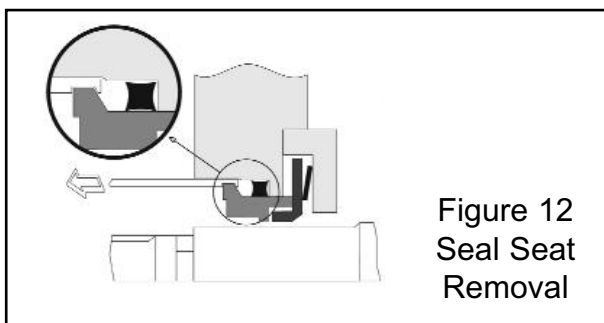

Figure 12
a) Carefully remove the static seal seats (80) from their bores in the rotor case (51), by inserting the special seal removal tool (182) carefully between the outside diameter of each seal seat and the bore in the rotor case. Push back the joint ring with the end of the tool and rotate the tool by 90 degrees, until the hooked end locks in position behind the seal seat. Working the tool gently around the circumference of the seal, carefully pull the seal face out. (See figure 12) Take great care not to scratch or damage the smooth face of the seal. Keep each seal with its respective shaft to ensure correct mating of the seal faces on re-assembly.
b) The joint ring (83) may come out with the seal face. If not, then remove it from the rotorcase bore and keep it together with the seal face. You may wish to label the